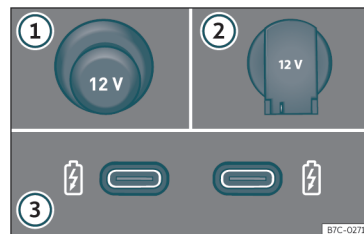

Fig. 127 Vehicle 12 volt socket.
12 volt power socket»» **Fig. 127** :
- Remove the cover from the socket, located on the centre console»» Fig. 127 ①.
- Lift the power socket cover»» Fig. 127 ②.